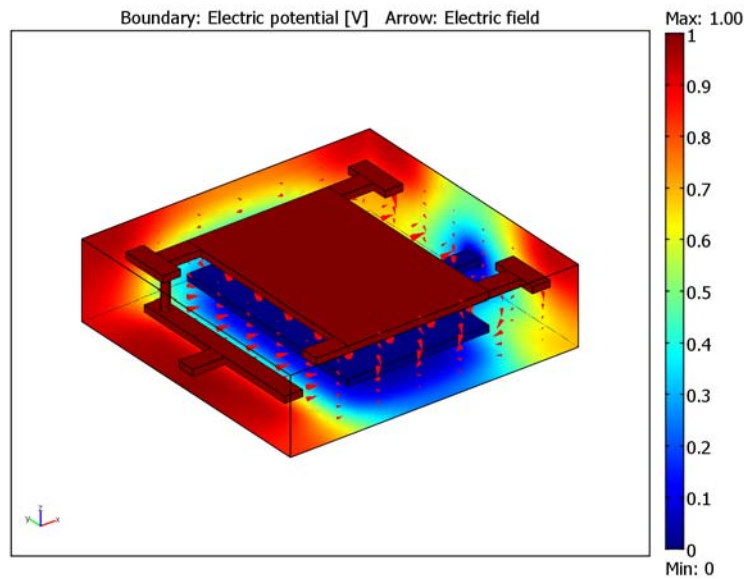

Figure 4-3: The electric potential is shown as a surface plot while the cones indicate the strength and orientation of the electric field.
Figure 4-3 shows the computed electric field and potential distribution in the capacitor. The potential on each capacitor plate is constant, as dictated by the boundary condition. Right between the plates, the electric field is almost uniform, but
- 4 Click **OK** to accept the default plot settings and reproduce the plot in Figure 4-3.